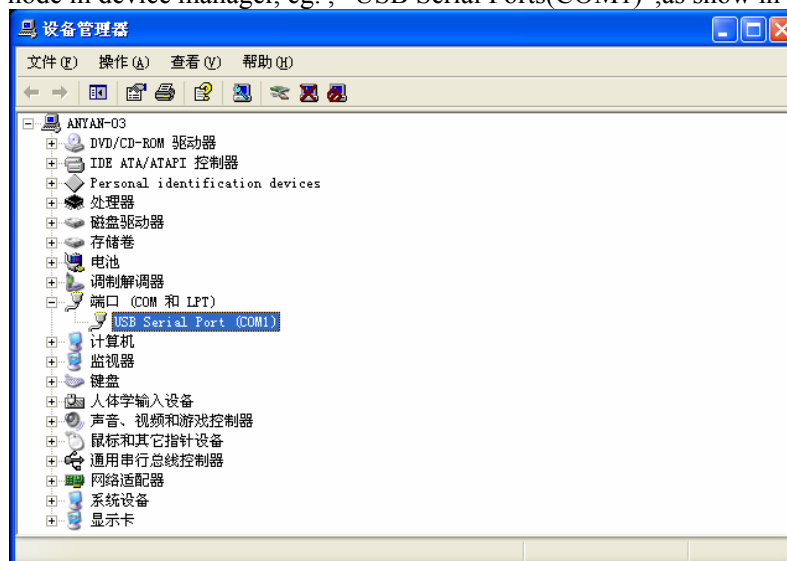

fig 32 USB-to-Serial Port
- 3、The OS will install the driver automatically, after installed, there is a new port will show on the “PORT” node in device manager, eg. ,” USB Serial Ports(COM1)”,as show in fig 32.